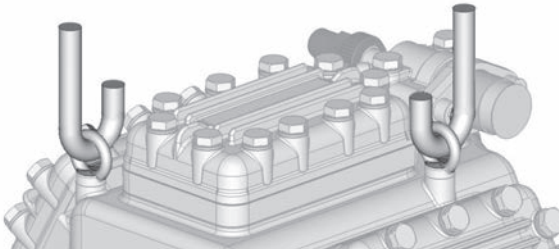

Fig. 4
- Transport and suspension unit on both eyebolts (Fig. 4).